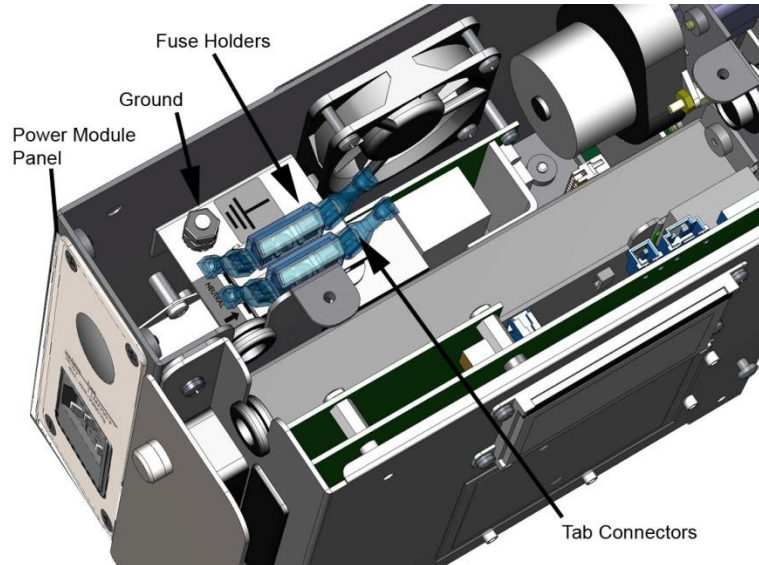

Figure 7: Preparing to Remove the Fuse Holders
7. Remove the covers from the two fuse holders and then remove the two fuses (see Figure 7: Preparing to Remove the Fuse Holders).
9. Cut the tab connectors off the wires that connect to the right side of the fuse holders (see Figure 7: Preparing to Remove the Fuse Holders).